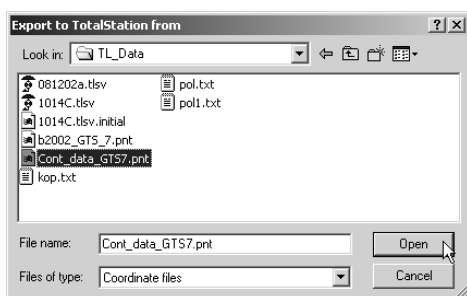

Figure 2-35. Export To TotalStation From...
- On the *Export to Total Station from* dialog box, navigate to and select the desired file (Figure 2-35).